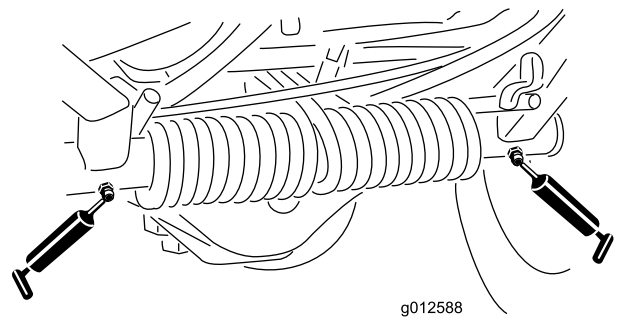

Figure 36
- Push arm pivot bushings (Figure 36)